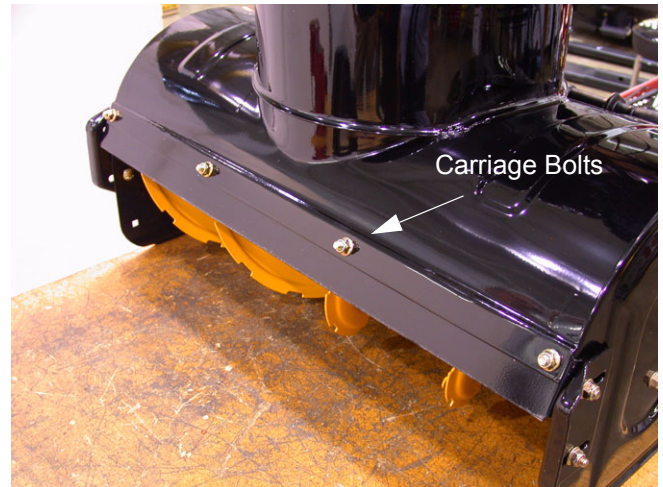

Figure 7
- 4.1. Remove the carriage bolts and hex nuts, which attach it to the snow thrower housing. See Figure 7.